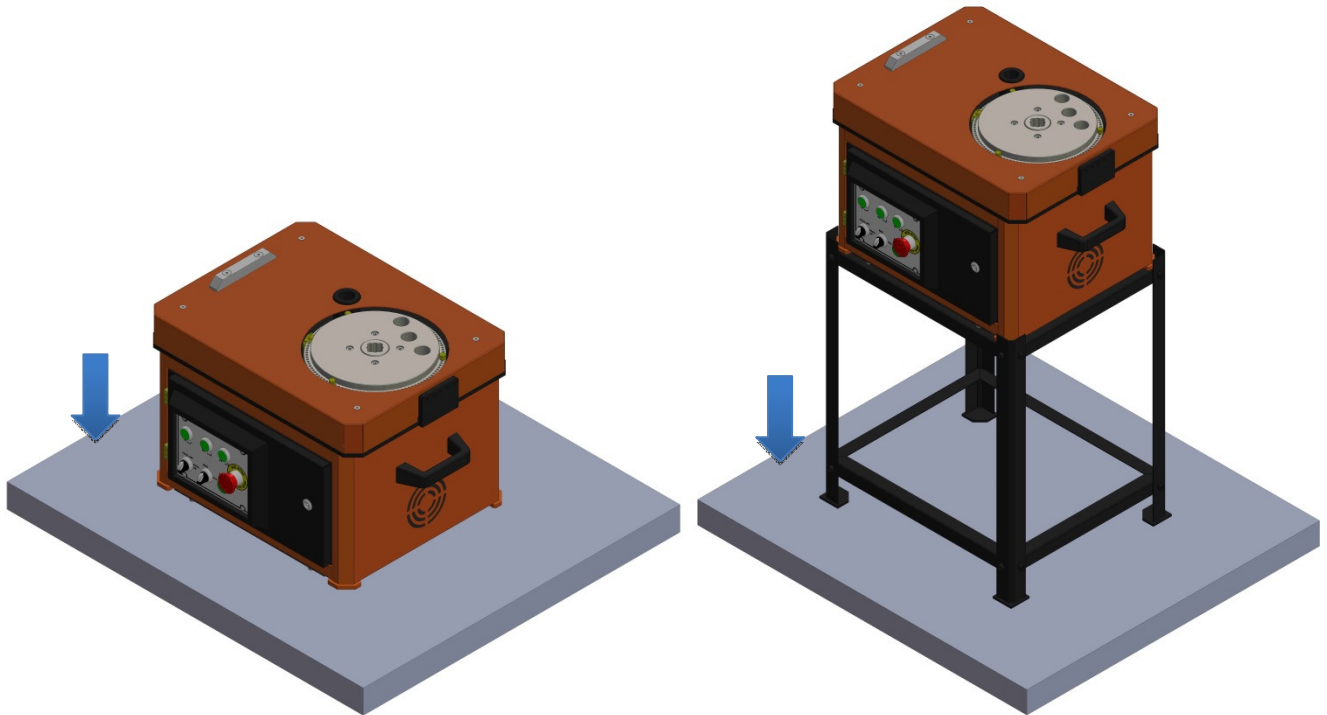

Figure 2: Leveling the machine on a solid ground
- Machine should be leveled on a solid ground and fixed to the floor. (Figure:2)